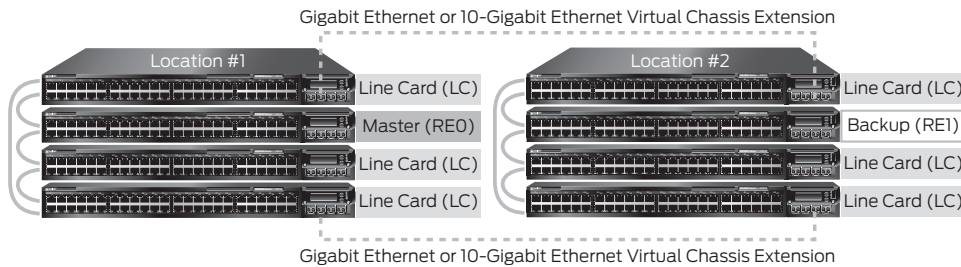

Figure 8: Recommended member location in an extended Virtual Chassis configuration
- In an extended Virtual Chassis configuration, place the master and backup switches in separate locations. (Please see Figure 8 for an example, and note the multiple uplink ports configured as Virtual Chassis ports for added bandwidth and link redundancy.)
Figure 8 illustrates the recommended location of the master and backup switches in an extended Virtual Chassis configuration. The top switch is connected to the bottom switch in each stack for added bandwidth and redundancy.